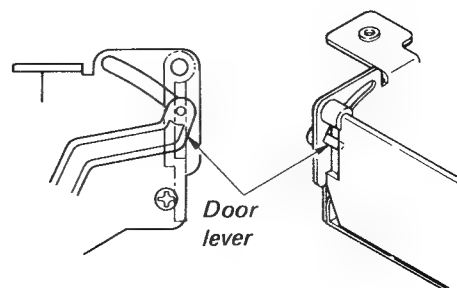

Fig. 1-3-4 Door replacement (3)
- 5) Insert the left door shaft into the guide bracket while warping the door slightly forward. In this case, make sure that the door lever pin is positioned as shown in Fig. 1-3-4.